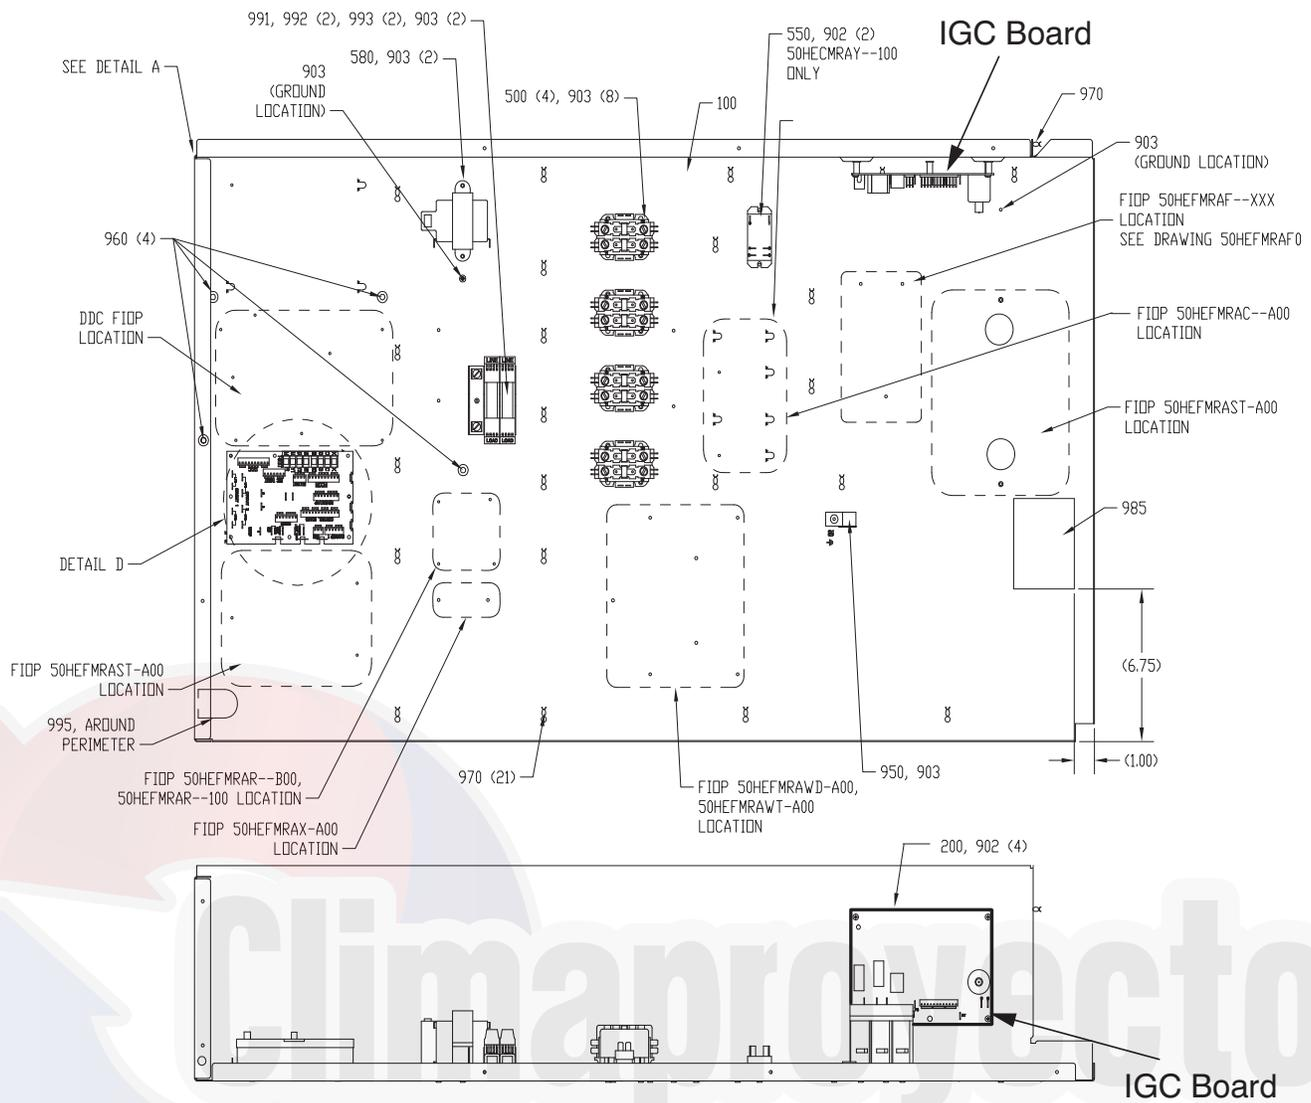

Fig. 55 – Unit Control Box/IGC Location
6. Remove the igniter wires and sensor wires at the Integrated Gas Unit Controller (IGC). See Fig. 55.
The unit is equipped with a direct spark ignition 100% lockout system. An Integrated Gas Unit Controller (IGC) is located in the control box. See Fig. 55. The IGC contains a self-diagnostic LED (light-emitting diode). A single LED (see Fig. 59) on the IGC provides a visual display of operational or sequential problems when the power supply is uninterrupted. When a break in power occurs, the IGC will be reset, resulting in a loss of fault history, and the indoor (evaporator) fan ON/OFF times will be reset. The LED error code can be observed through the viewport. During servicing, refer to the label on the control box cover or Table 12 for an explanation of LED error code descriptions.